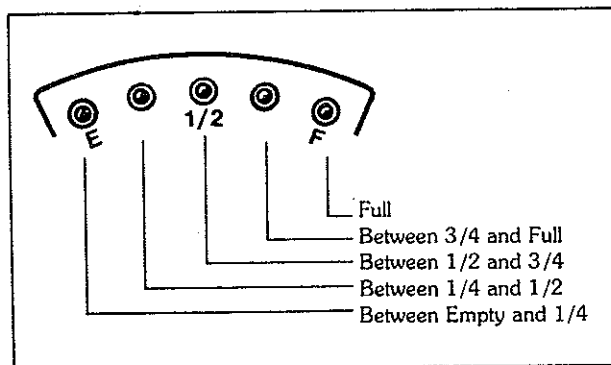

Figure 7.
1. The lights indicate the amount of liquid in their respective tank (see Fig. 7).